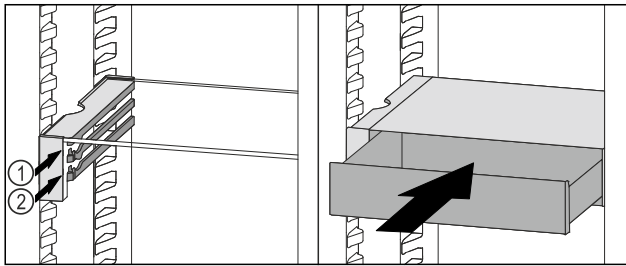

Fig. 201
- ▶ Place the VarioSafe drawer behind the stoppers on desired rib Fig. 201 (1) or Fig. 201 (2).